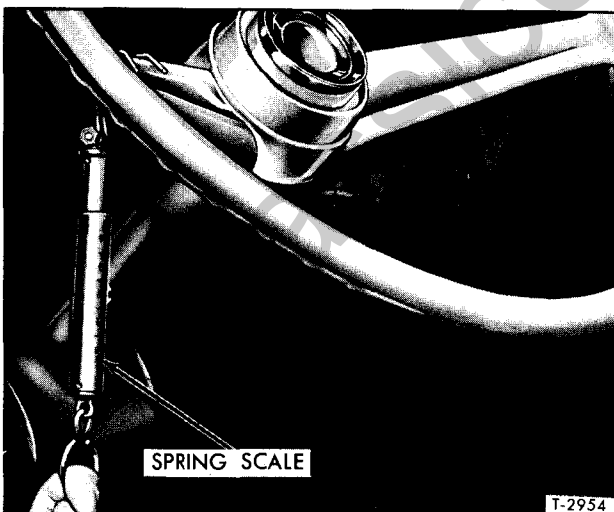

Figure 4—Checking Steering Wheel Rim Pull (Typical)
4. Attach spring scale (J-544-01) at rim of wheel as shown in figure 4. Pull on scale in a line at right angle to wheel spoke and measure the amount of pull required to keep the wheel moving. If worm bearings are properly adjusted, reading on spring scale should be between 1½ and 2 pounds.